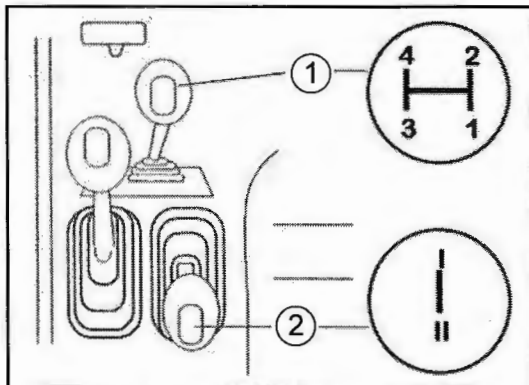

Fig. 16-1 - Main Gear Shift Lever and Range Gear Shift Lever
The main gear shift lever (1) selects four speed ratios (1,2,3,4) which are fully synchronized. To change from one speed to another in the same range, shift the main shift lever after depressing the clutch. (The gears are synchronized in order to shift without stopping.) (See Fig. 16-1).
To change ranges, stop the tractor and move the range lever after depressing the clutch pedal. (See Fig. 16-1).